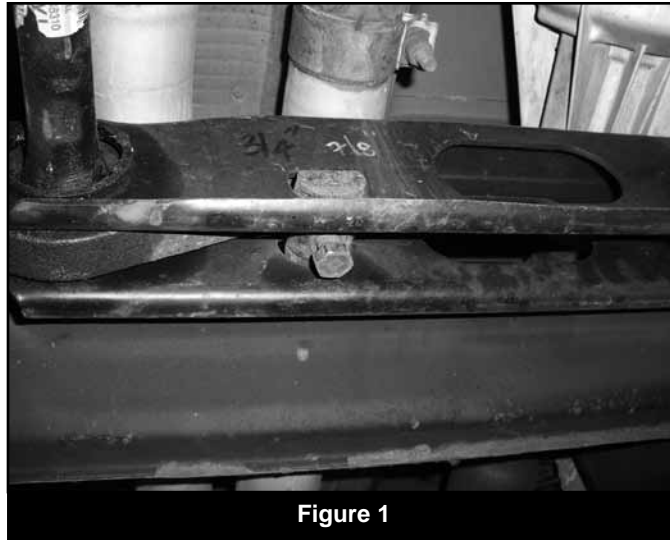

Figure 1
5. Measure and record the length of the exposed thread on the torsion bar adjuster bolts (Fig 1). Record the lengths here for use later during the installation